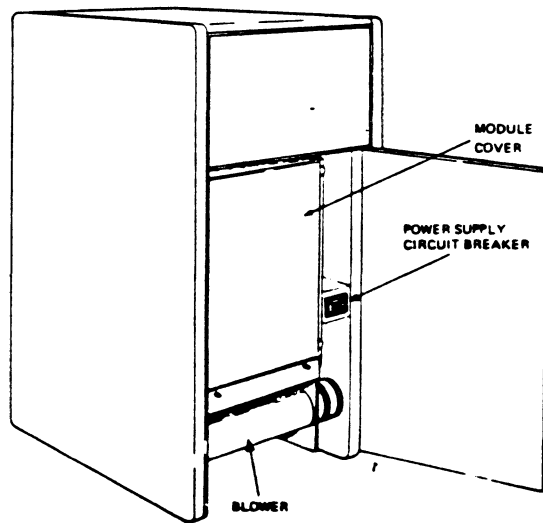

FIGURE 2-7 CABINET FRONTVIEW
7. Open the front door, turn both power supply circuit breakers to OFF (0). (See Figure 2-7.)
8. Assure that the expansion power supply breaker is OFF (0) if the expansion backplane is in use.
3. Open the front door and turn the main power supply circuit breaker to ON (0). See Figure 2-7.